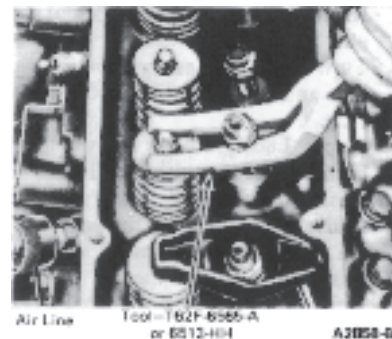

Fig. 11 Compressing Valve
4. Install the stud nut and position the compressor tool as shown in Fig. 11. Compress the valve spring and remove the retainer locks, sleeve, spring retainer and valve spring.